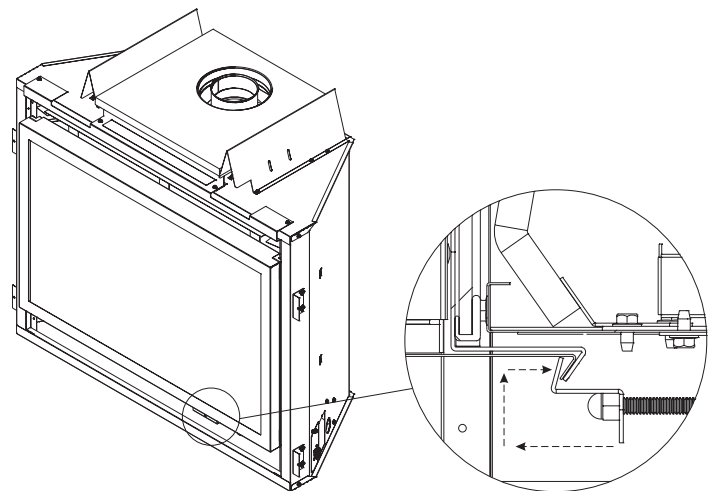

Figure 94
4. Engage the two glass latches over the barrier screen and glass frames as shown in **Figure 94.**